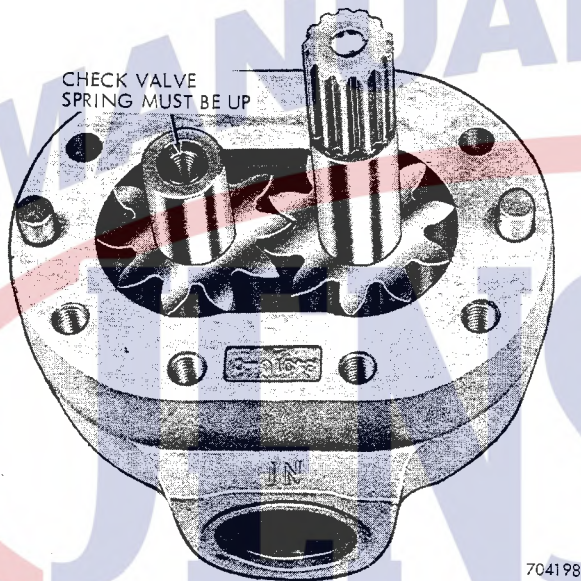

Figure 29 - Installing Gears
1. Position gears in body as shown in Figure 29. The check valve spring in the driven gear must be up.